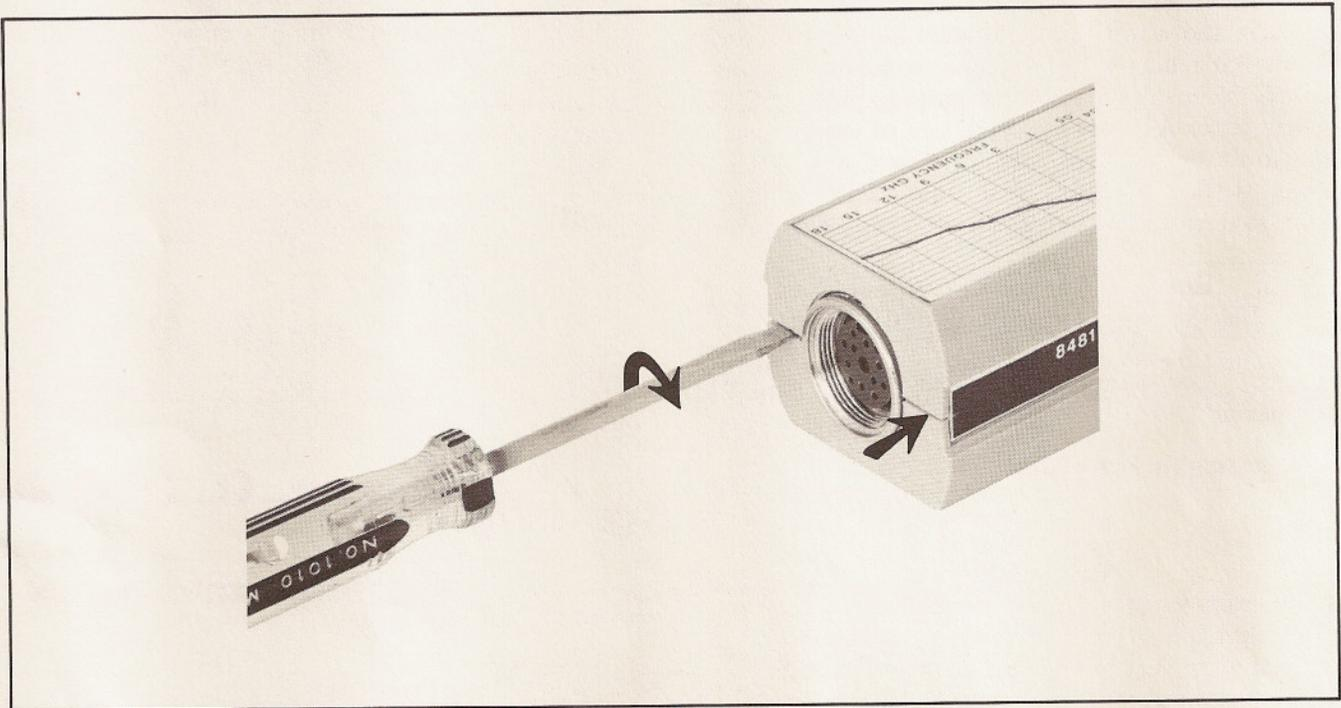

Figure 6. Removing the Power Sensor's Cover
a. Insert the blade of a small screwdriver between the two-piece plastic shell at the rear of the Power Sensor. Gently pry the sections apart. (See Figure 6).